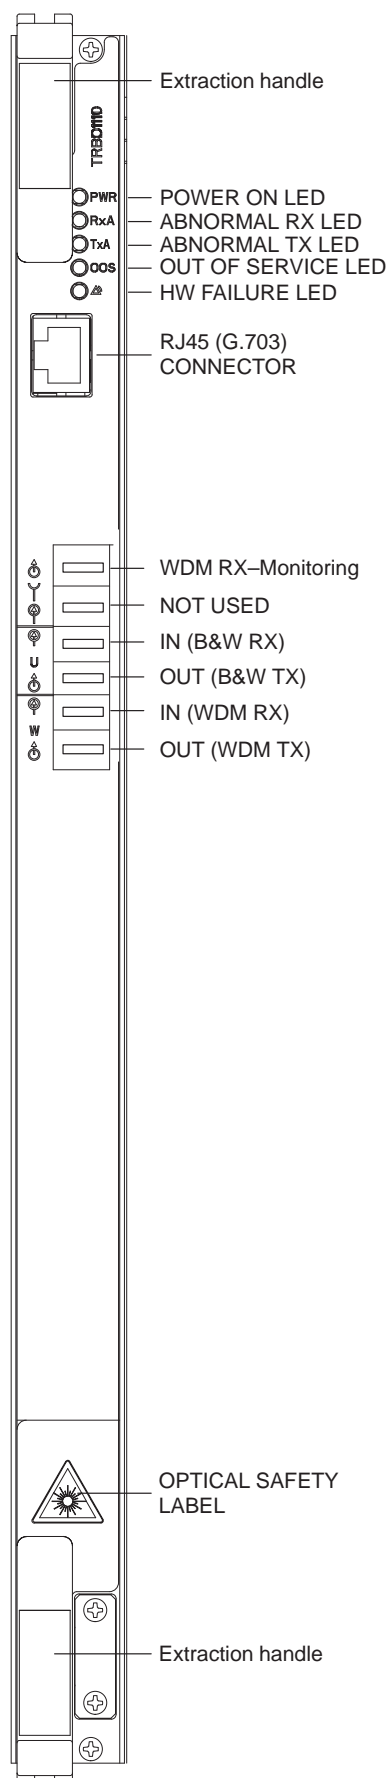

Figure 52. TRBD1xyz board Front panel
- TRBDwxyz boards, both Back & White and WDM coloured interfaces, see Figure 52. on page 106